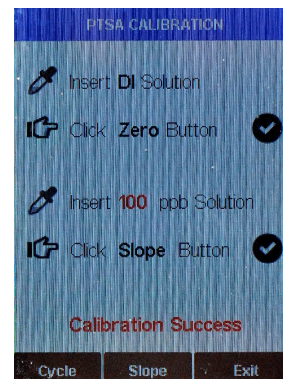

Figure 5.
11. If the calibration succeeds, a checkmark (), a "**Calibration Success**" message will appear (Figure 5). Otherwise, a warning message is displayed.